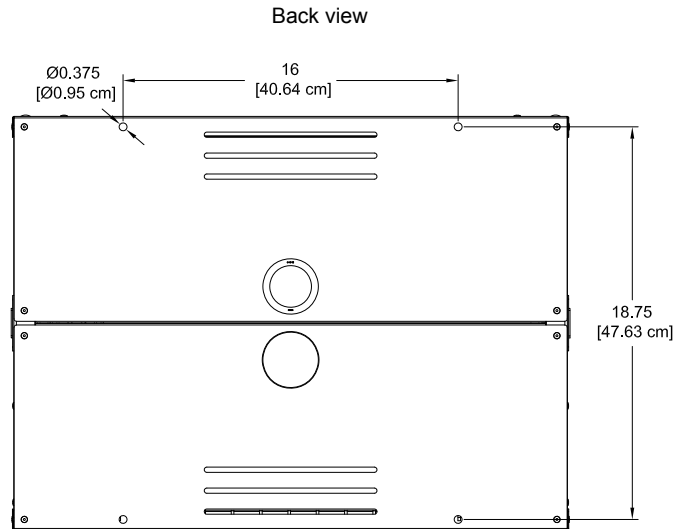

Figure 1
2. Set the cabinet into position. Using the mounting holes located on the bottom of the unit as a template, locate and mark the mounting hole locations on the floor / worksurface. **Figure 1.**